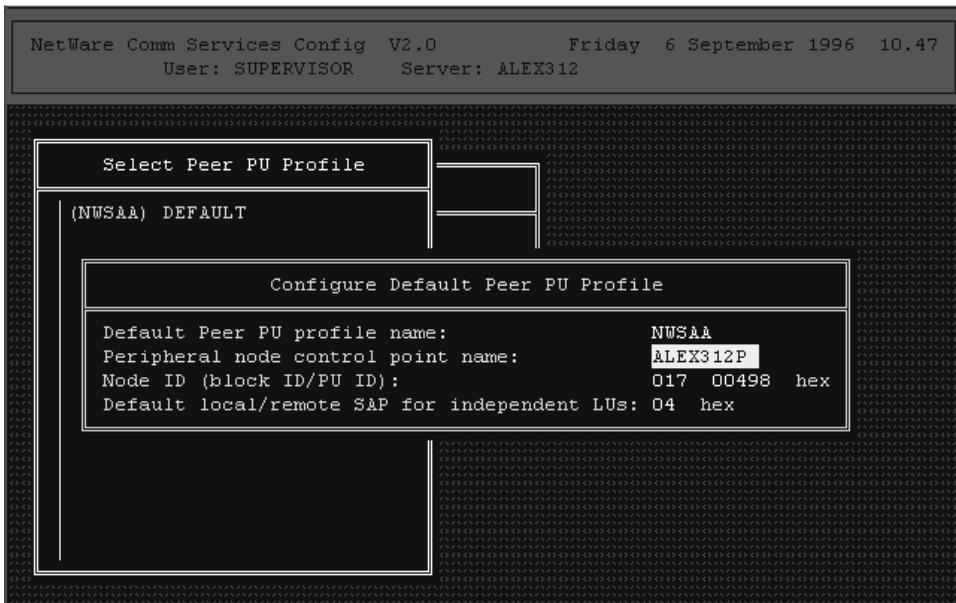

Figure 21. Entering the Physical Unit name
- 3 Select the default peer PU profile to be used for SNA communications. In the **Peripheral node control point name** field, fill in the physical unit name of the NetWare server, as shown in Figure 21.